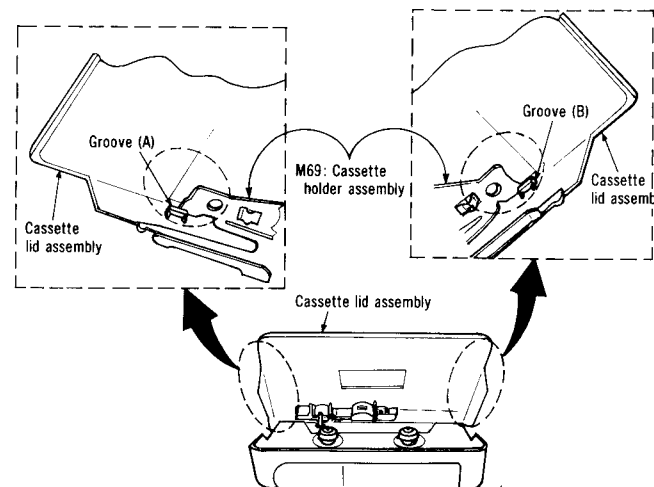

Fig. 5
When mounting the cassette lid assembly on the M69: cassette holder assembly, orient the M69: cassette holder assembly to the position shown in fig. 5 (so that it engages grooves (A) and (B)).